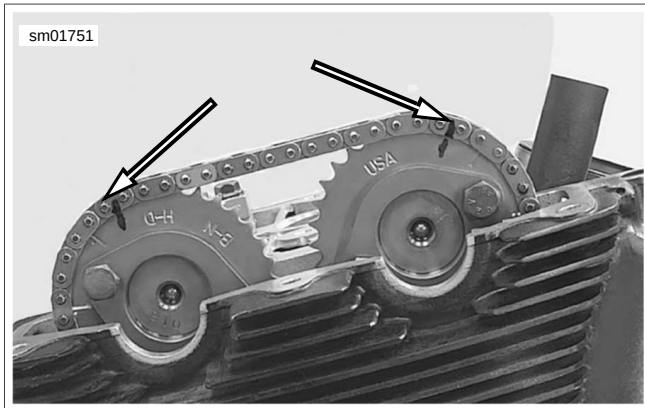

Figure 1-60. Reference Mark Cam Gear and Chain Link
- See Figure 1-60. Clean oil from cam drive gear and chain link. Make a reference mark on chain and cam drive gear, both intake and exhaust, as shown.
15. See Figure 1-60. Install cam in alignment with reference marks made during disassembly.